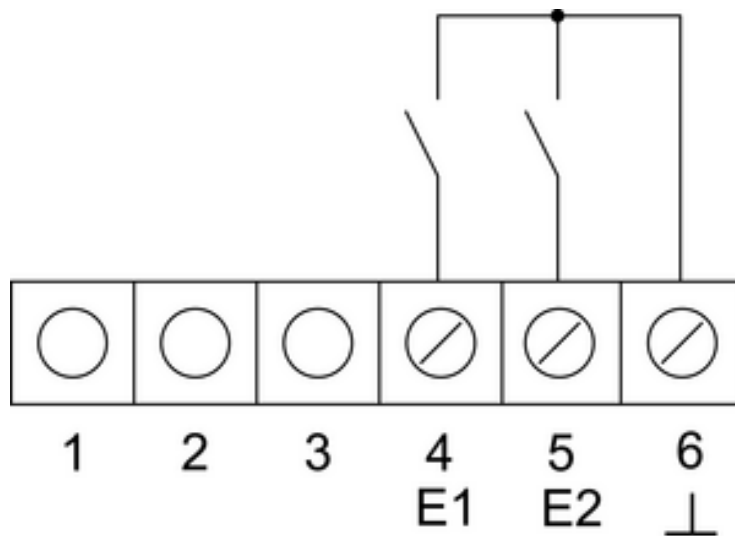

Figure 3: Connection of binary inputs
- Removing the cover (4).
- Isolate terminal insert (1) from electronic insert (3).
- Connect the bus line to the connection terminal (9) in the terminal insert.
- Binary inputs: Connect window contacts, NO contact or NC contact button to terminals 4, 5 and 6 of the connecting strip (8) (figure 3).
- Insert terminal insert (1) in appliance box. Note label **OBEN / TOP**. The bus connection must be to the right and below.
- Fit the Design frame (2) on terminal insert (1).
- Insert the electronics cover (3) into the terminal insert in the correct orientation.